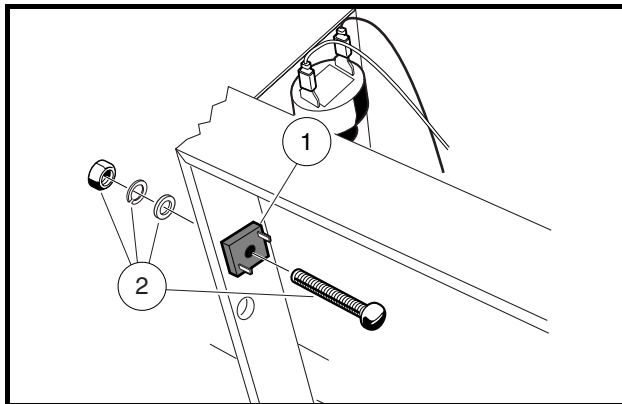

Figure 12-30 Headlight Diode
4. Disconnect wires from the headlight diode (1). Do not allow wires to touch (**Figure 12-30, Page 12-27**).
1. Mount the headlight diode to the frame using the mounting hardware and tighten to 25 in-lb (2.8 N·m) (**Figure 12-30, Page 12-27**).